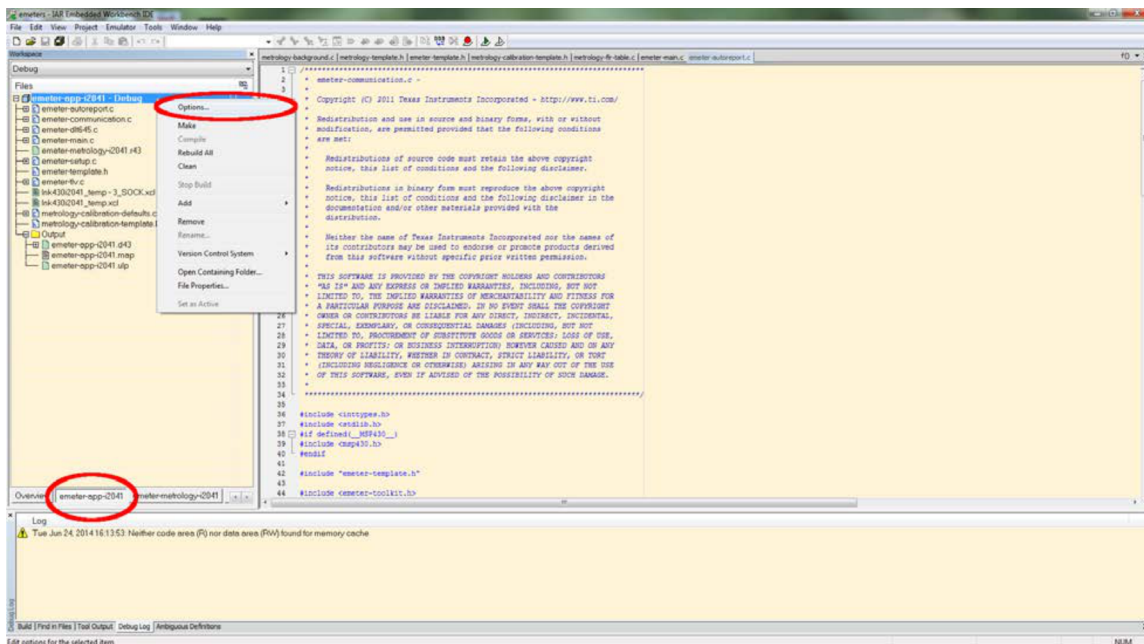

Figure 24. Project Tab
4. Check the project options by right clicking on the project name and selecting Options... from the pop-up menu as shown in Figure 24.